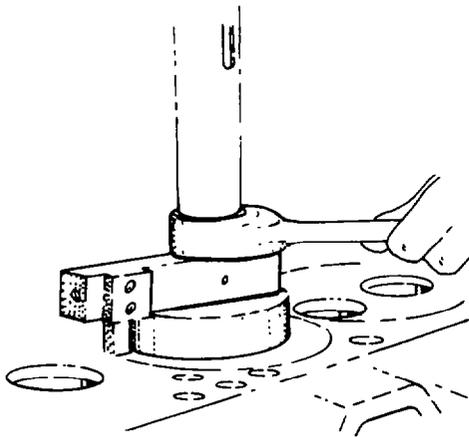

Fig. 25 — Cutting Fire Ring Groove
- c. Position a suitable ratchet spanner over the drive pin of the tool and lower the press onto the spanner to give a slight pressure when cutting the fire ring groove (see fig. 25).